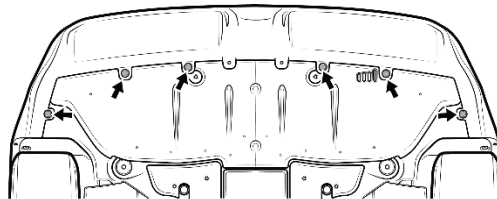

Fig 16-3
- (g) Reinstall 6 push pins from underneath vehicle. (Fig. 16-3)